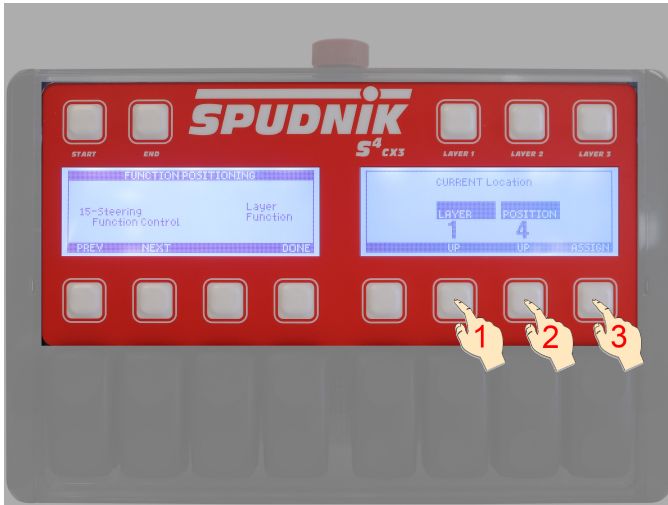

Figure 17
- Press soft key 6 (*UP*) to scroll to *LAYER* variable 1. (See Figure 17)